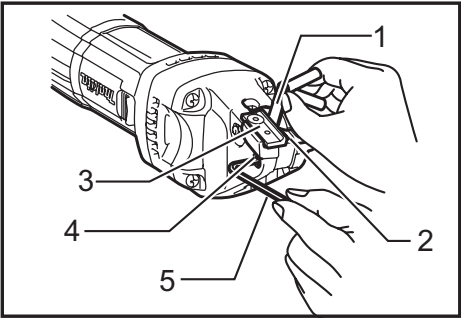

Fig.3
► Fig.3: 1. Thickness gauge 2. Center blade 3. Side blade 4. Hex socket head bolt 5. Hex wrench